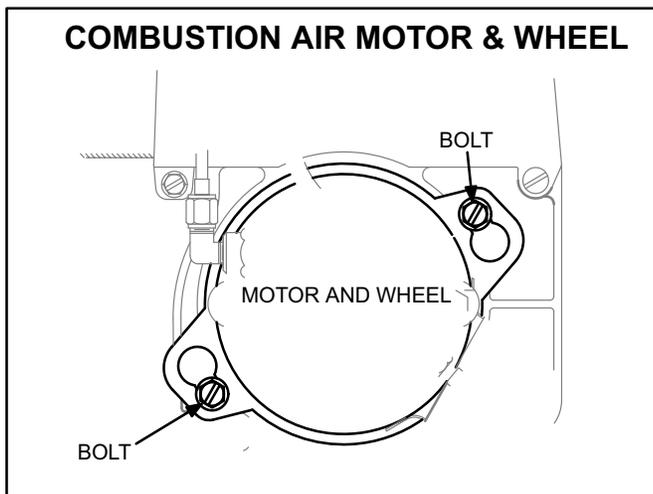

FIGURE 24
- 3- Loosen two bolts securing motor to blower housing. Key hole slots are provided for easy removal. See figure 24.